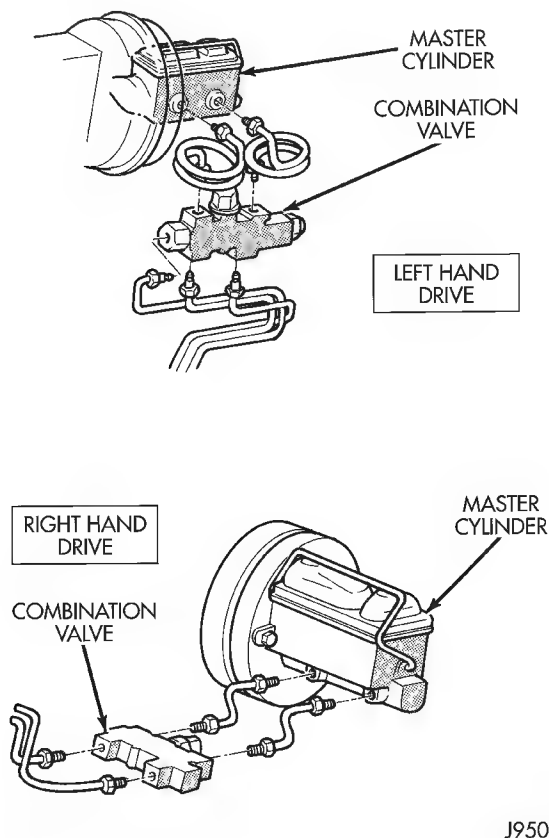
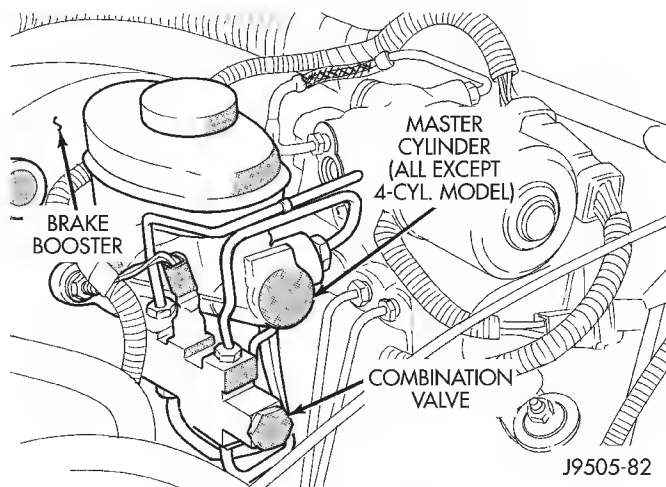

Fig. 1 Master Cylinder And Combination Valve (4-Cyl. YJ Models)
Fig. 2 Master Cylinder And Combination Valve (All Except 4-Cyl. YJ Models)
Two different master cylinders are used. A one-piece cast aluminum cylinder is used on 4-cylinder YJ models (Fig. 1). All other models have a two-piece master cylinder with removable nylon reservoir (Fig. 2).
(1) Bleed master cylinder on bench before installation. Refer to procedure in this section.
(2) If new two-piece master cylinder is being installed, remove plastic protective sleeve from primary piston shank. Also check condition of seal at rear of cylinder body. Reposition seal if dislodged. Replace seal if cut, or torn.
(3) Clean cylinder mounting surface of brake booster. Use shop towel wetted with brake cleaner for this purpose. Dirt, grease, or similar materials will prevent proper cylinder seating and could result in vacuum leak.
(4) Slide master cylinder onto brake booster studs.
(5) Install nuts attaching master cylinder to booster studs. Tighten nuts to 25 N·m (220 in. lbs.) torque.
(6) Connect brakelines to master cylinder and combination valve (Figs. 1 and 2).
(7) Fill and bleed brake system.